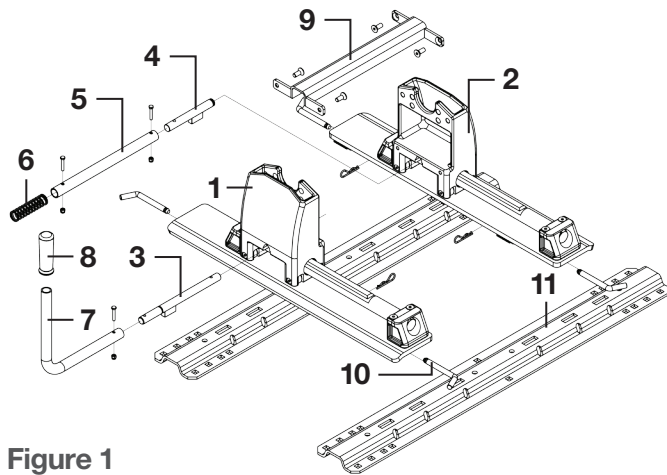

Figure 1
Slide cross member weldment (9) between the DS roller assembly (1), PS roller assembly (2) and over the lock rod assembly as shown in Figure 1. Secure with 10mm flat head bolts and torque to 35 foot lbs.